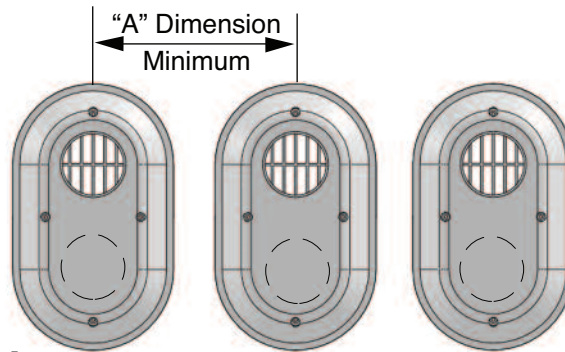
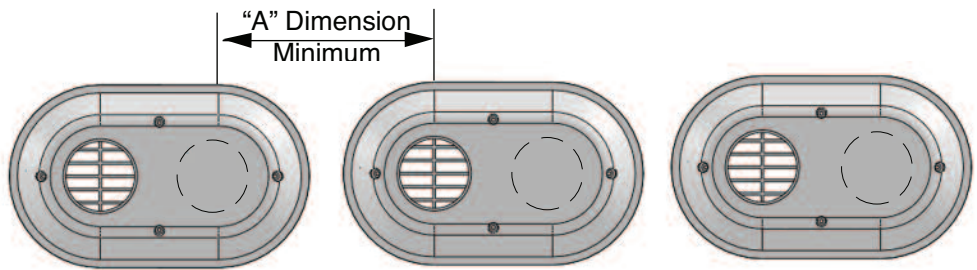

Fig. 5: Multiple Vent Termination - Vertical
Fig. 6: Multiple Vent Termination - Horizontal
5. For multiple vent termination installation, reference Figure 5 for vertical orientations and Figure 6 for horizontal orientation.